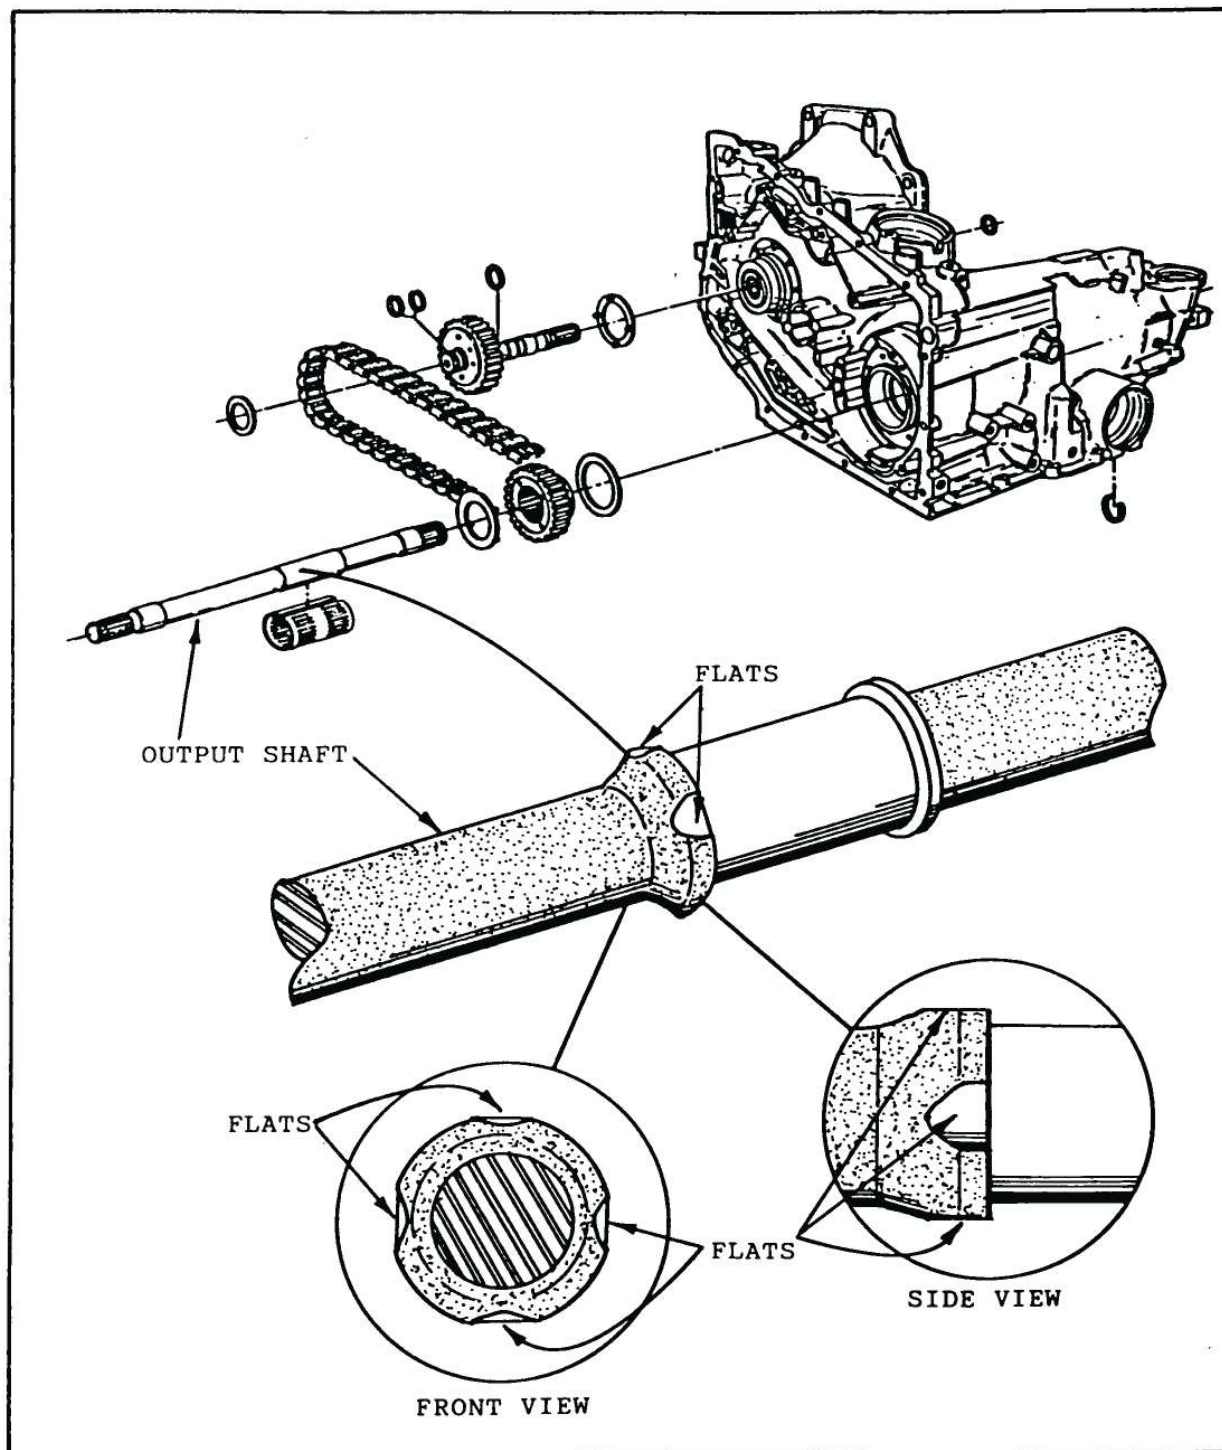

Figure 92
Grind four (4) flats on the Output Shaft at the front of the bearing in the locations shown in Figure 92.